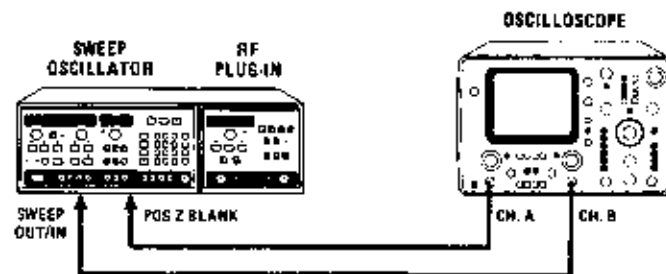

Figure 5-14. Delay Compensation Adjustment Test Setup
14. Connect the equipment as shown in Figure 5-14. On the 8350A, press **INSTR PRESET**, then **CF**, **MI 150 MHz**, **SWEEP TIME .5 S**.